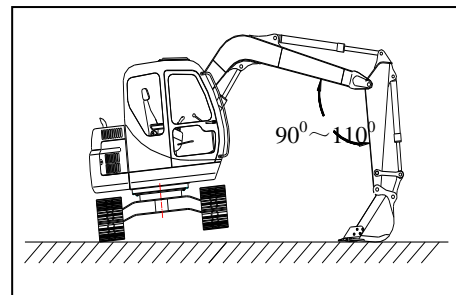

Figure 3.4.7
(1) Arm and bucket cylinder must be extended completely to place the working device on minimum radius position, the bucket will be about 0.5m to the ground.
(2) Lift dozer blade to its zenith.
(3) Choose plane road to travel as much as possible. It should travel straight when traveling or turning, and also turn large bend, avoid turing blind bend. When turn in one point at confined area, it should operate gently.
(4) When travel at badlands or uneven carpolite road, it should reduce engine rev and travel at about 1.5km/h to reduce the vibration.
(5) Avoid back traveling to prevent crawler parts damaging prematurely.
(6) If the excavator can't travel for getting into miriness, you can extend arm and place bucket to ground (as figure) to lift one side of crawler, then turn the lifted crawler to clean out the bedload. In order to reduce the force enduring of boom and arm, the angle between boom and arm should be in the range of 90°--110°(As figure 3.4.7)